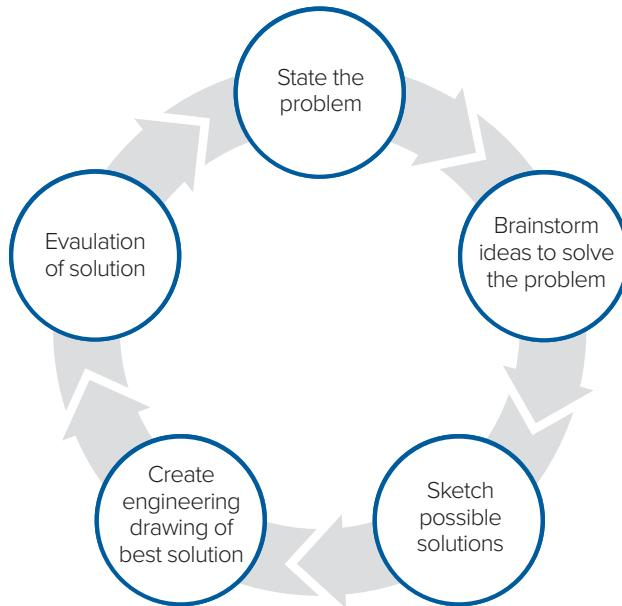

Figure 1: Technical design process loop
- A. Students prepare a portfolio that includes each step of the technical design process loop. (Figure 1).
- a. Title page with the event title, conference city and state, the year, and the team/chapter ID number; one (1) page
- b. Table of contents; one (1) page
- c. Team's interpretation of the problem, including a list of criteria and constraints set forth in the design brief; one (1) page
- d. Demonstrated use of a brainstorming technique of the team's choice (mind mapping, reverse engineering, word association, etc.), to develop ideas to solve the problem; brainstorming ideas should be documented; one (1) page
- e. At least three (3) hand-drawn sketches of different solution options to a given problem. Photo/scan/convert each to a PDF as necessary to insert into the portfolio PDF. One (1) page for each hand-drawn sketch; three (3) pages total